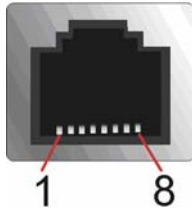

Figure 4-21: RJ-45 Serial Port
- CN Location:** See **Figure 4-21**